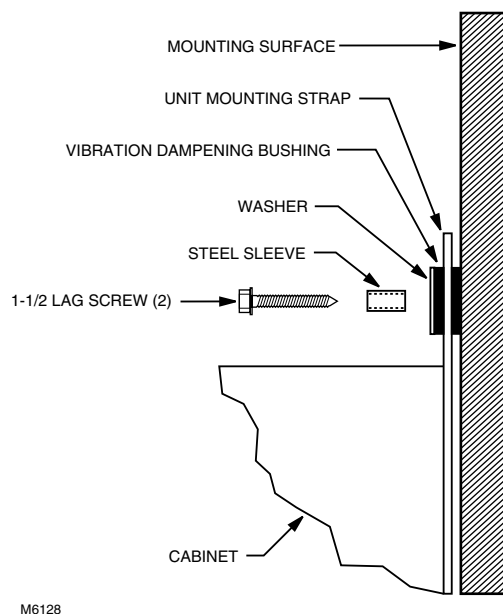

Fig. 5. Typical mounting when unit is mounted to a wall with four lag screws (one shown).
- ❶ Attach two mounting straps to the bottom of the cabinet. Use four each of the no. 10-24 x 1/2 in. round head machine screws and no. 10 internal tooth washers as supplied in the hardware package.
- ❷ Insert a steel sleeve into each of the four mounting strap bushings. See Fig. 5. With the cabinet mounted horizontally, these bushings will be spaced 32 in. on centers for direct attachment to wall studs spaced 16 in. on centers. For other wall configurations, using of a mounting board may be required.
- ❸ Support the cabinet at the desired location and secure with four no. 12 x 1-1/2 in. lag screws. The Fresh Air Ventilation System is now mounted and ready for attaching the ducting.